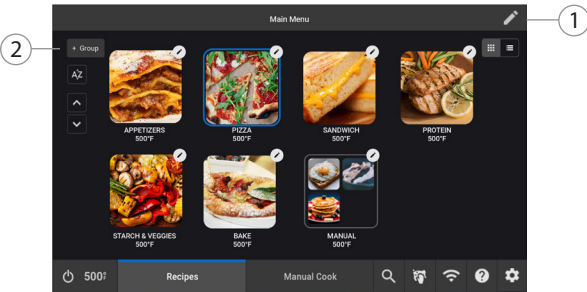

Figure 18: Edit Mode: Create Group
- 1. Touch the Edit button in the top-right corner of the screen (Figure 18, above).
- 2. Touch the “+Group” button (Figure 18, above).